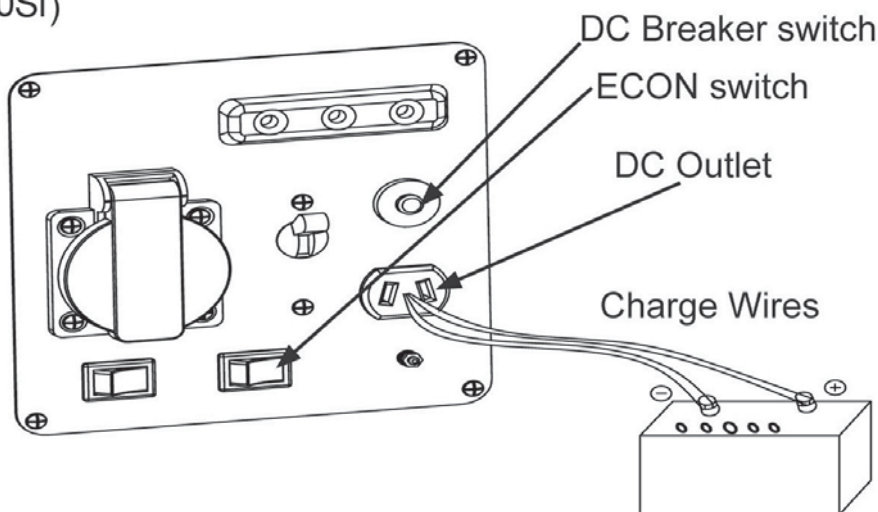
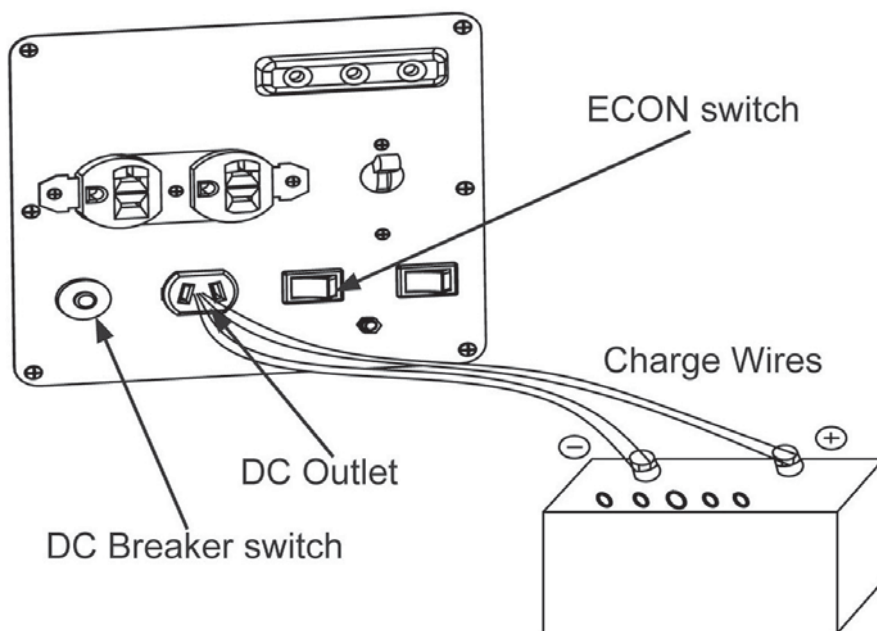

Fig. 4.14
Fig. 4.15
- The DC socket is only used for charging a 12V battery. (Refer to Fig. 4.14 for HY1000Si and Fig. 4.15 for HY2000Si HY3000Si)
- When using the DC socket, turn the ECON switch to the OFF position. (Refer to Fig. 4.14 for HY1000Si and Fig. 4.15 for HY2000Si HY3000Si)